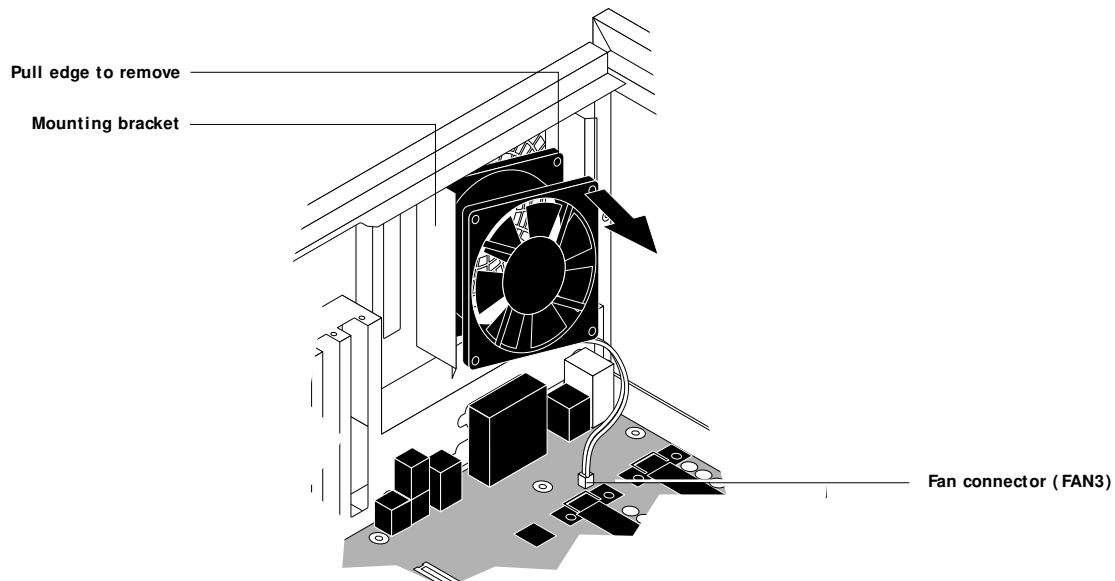

FIGURE 4-25 Removing the fan
1. Angle one edge of the fan into the mounting bracket on the back panel of the E-800A and snap the fan into the clips on the bracket (see Figure 4-25 on page 4-38).
2. Plug the 3-pin fan connector into the motherboard connector labeled FAN3. See Figure 4-25 on page 4-38.